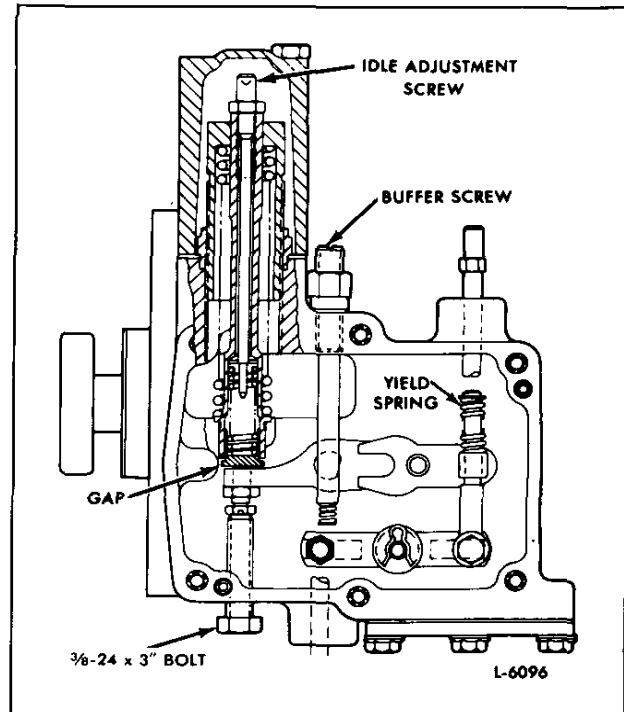

Fig. 5 - Setting Gap at Spring Cap
4. Install a 3/8"-24 bolt (with a minimum of 1-1/2 inches of thread) in the tapped plug hole and screw it in until the gap at low-speed spring cap is reduced to 0.03 - 0.00 mm (0.0015"-0.000") (Fig. 5).